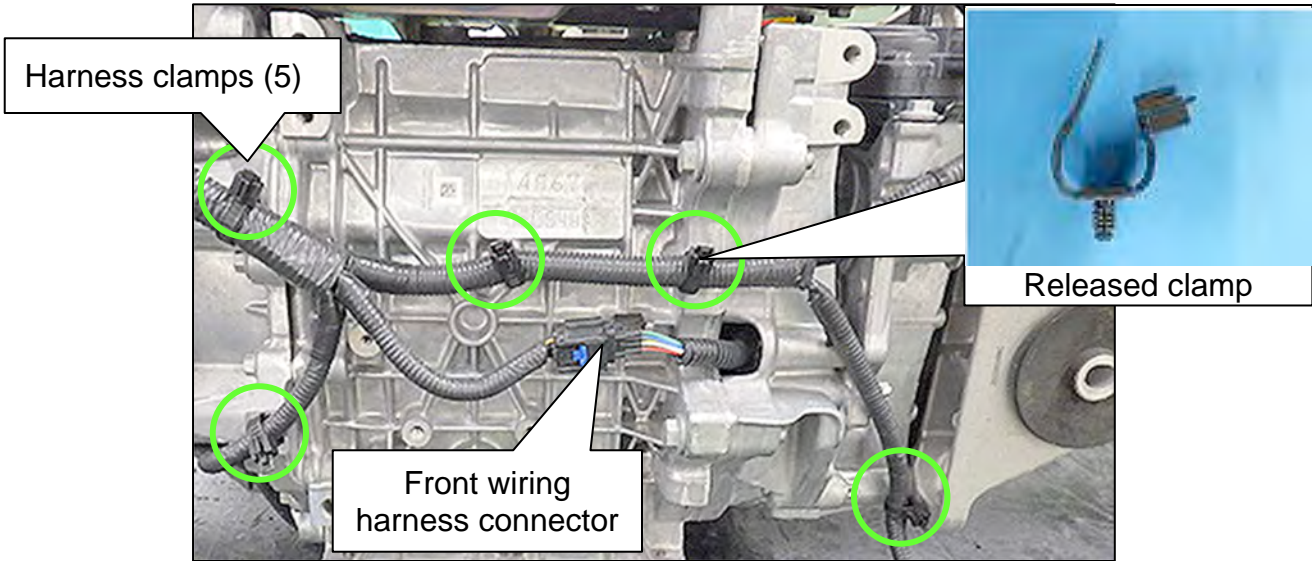

Figure 83
104. Disconnect the front wiring harness connector shown in Figure 83.
105. Unlock the five (5) harness clamps shown in Figure 83 to release the front wiring harness.